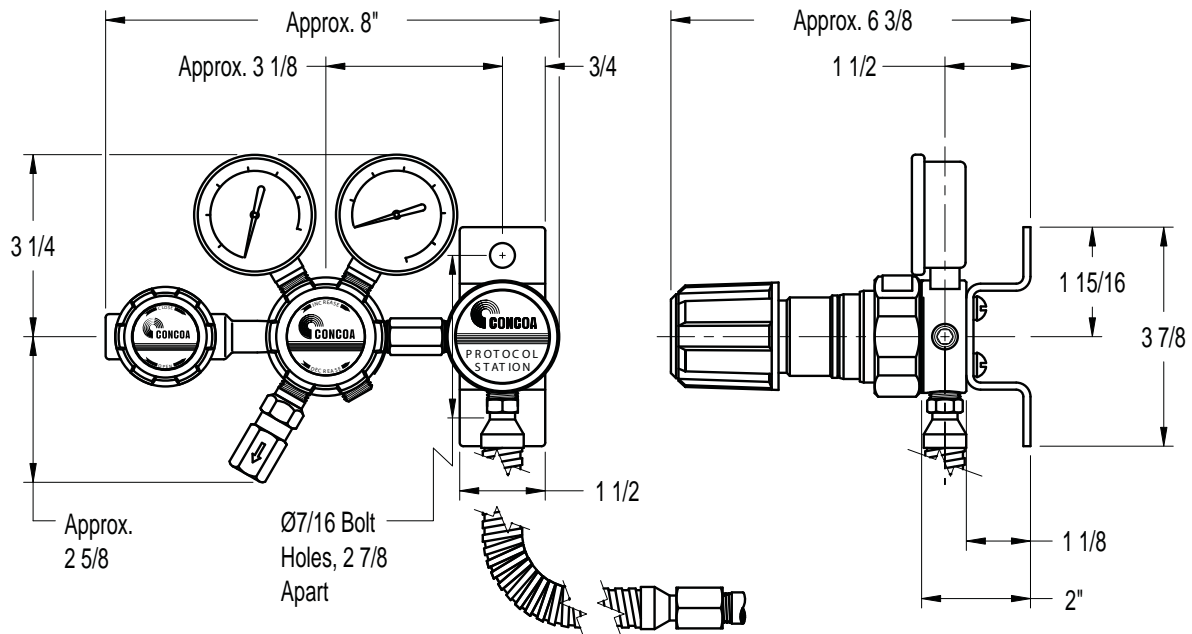

Figure 2 - Single Stage Protocol Station
1. The Protocol Station shall be securely fastened to a wall using fasteners appropriate for the wall construction. Mounting dimensions are provided in Figure 2, 3 and 4.